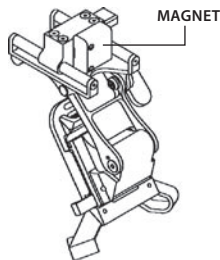

Figure 3-16. Locating the Magnet
- (1) To install the Picatinny/Weaver Adapter #118 into the monocular, align the thumbscrew of adapter to the hole and tighten it as shown in Figure 3-16. An alignment boss on the adapter fits into a groove on the monocular. Ensure that the boss on the adapter fits into the groove on the monocular.
- (2) Loosen the IR illuminator fixing screw.
- (3) Mount the IR illuminator on the rail of adapter and tighten the fixing screw.
- If the magnet is not removed, contact Customer Support for instructions on returning the ruggedized metal helmet mount for magnet removal. See Figure 3-16 for the location of the magnet.
- (1) If the sacrificial window or objective lens cap is in place, remove it.
- (2) Turn the monocular on.
- (3) While looking through the monocular, rotate the objective lens focus completely counterclockwise.